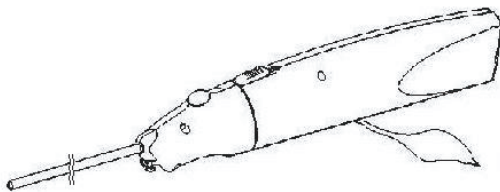

Figure 3
2. Thread the suture/tubing (end opposite the screw) through the shaft until it protrudes from the suture exit hole (Figure 3).
2. Thread the suture (end opposite the screw) through the shaft until it protrudes from the suture exit hole (Fig. 3).